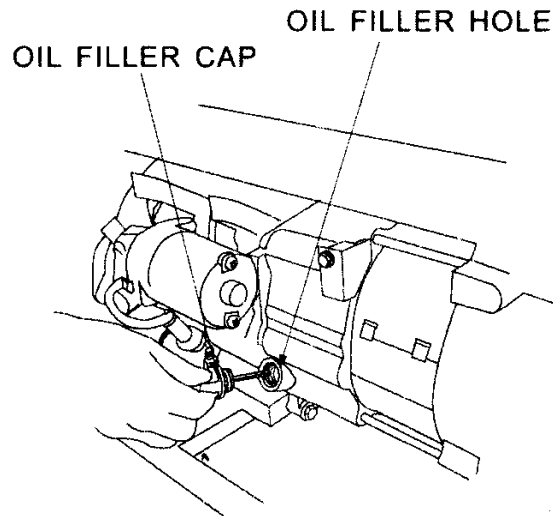

Figure 14- Checking the Oil
2. Unscrew the oil filler/dipstick cap (see *figure 14*).
2. Unscrew the oil filler/dipstick cap from the engine as shown in *figure 14* above.